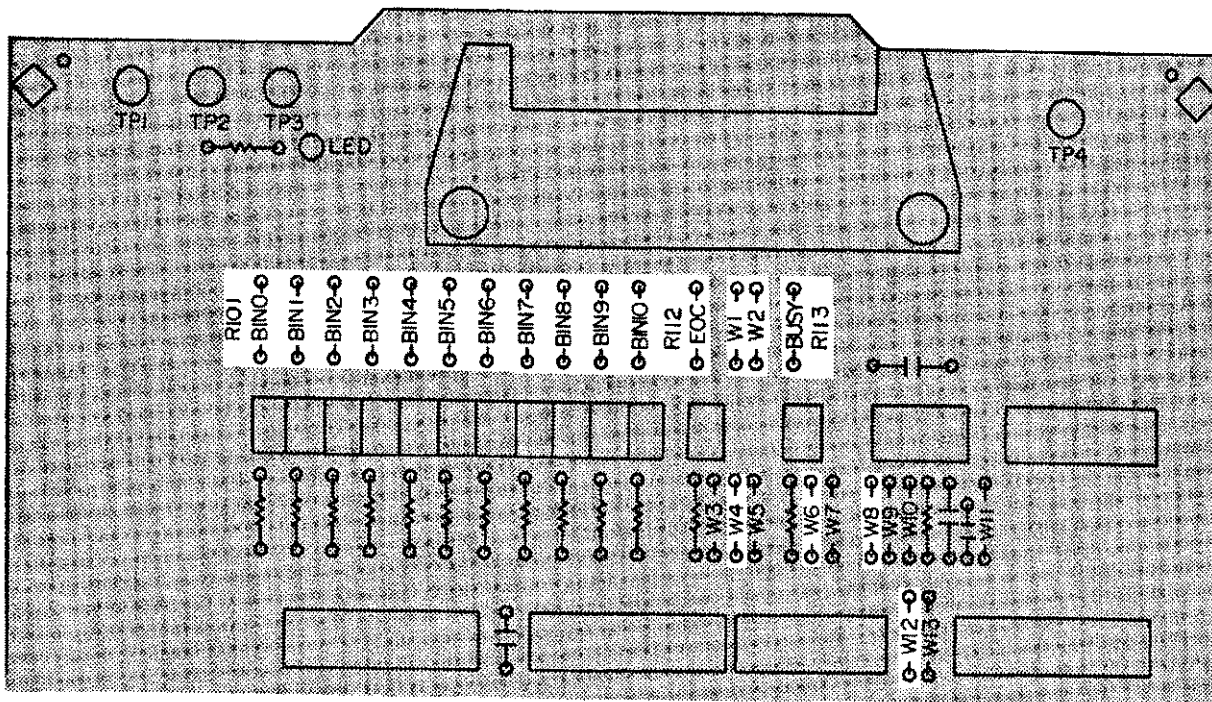

Figure 4-28. Palomar M11 Jumper and Pull-up Resistor Locations
1. Configure the following interface signals by installing the jumpers as shown in Figure 4-28.
2. All I/O signals are TTL level so you must install all pull-up resistors to + 5V (install pull-up resistors **R101 ~ R113**). Refer to Figure 4-28 for the pull-up resistor locations.
3. Bring + 5V out through pins 12 and 17 of the handler interface rear panel connector (install a jumper at **W1** for + 5V and at **W2** for the **COMMON** connection). Refer to Figure 4-28 for the locations of **W1** and **W2**.